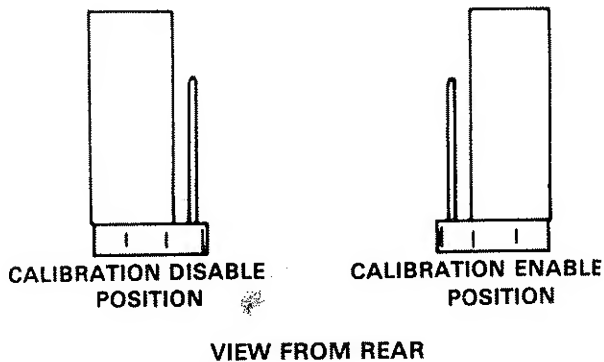

Figure 5-2. Calibration Jumper
2. The calibration jumper is located in the middle of the mother board right behind the shield. Move the calibration jumper from position A to position B as shown in Figure 5-2.
To store the calibration constants, simultaneously press the REL and dB button until the message STOR is displayed. If the new calibration constants are not stored, they will be lost when the unit is turned off. If it is desired to disable front panel calibration place the calibration jumper in the appropriate position (see Figure 5-2).